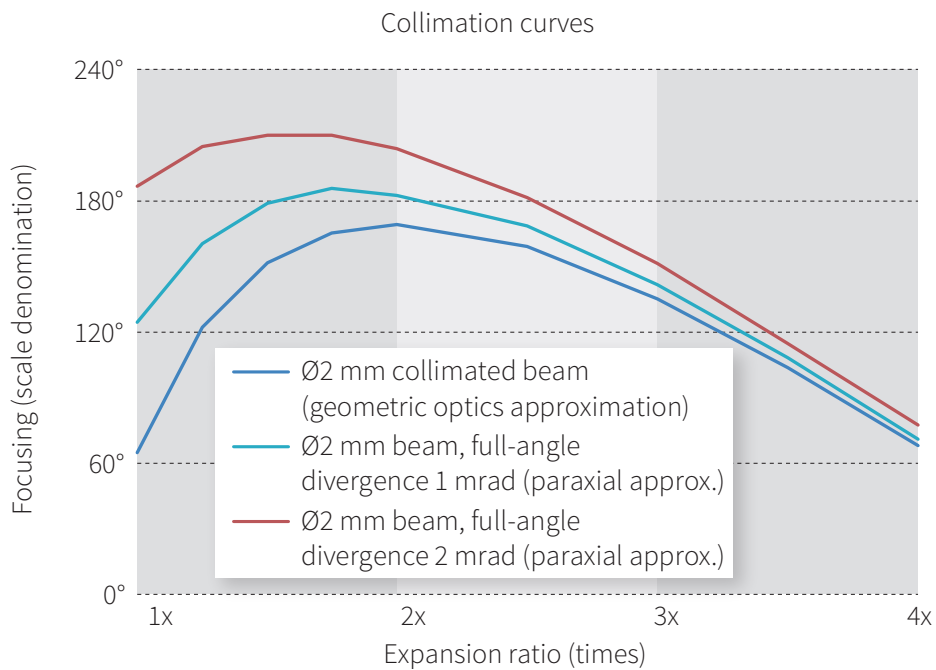

Figure 22. Collimation curves.
5. Depending on input beam divergence, collimation might require extra tuning, especially on the lower expansion end. Please refer to the graph below for comparison of collimation curves for Ø2 mm beam with Ø4 mm and Ø6 mm beams (fig. 22).